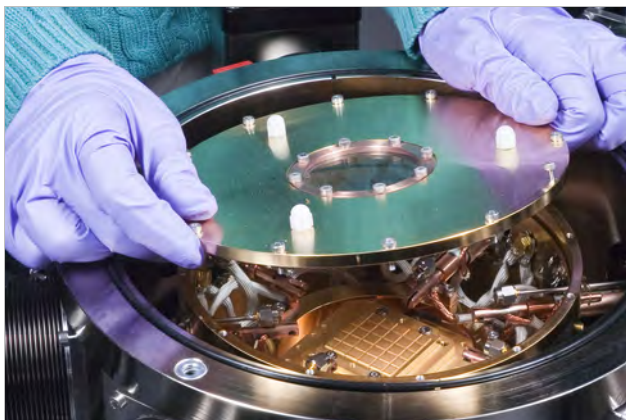

FIGURE 4-7 Attaching the lid to the radiation shield body
1. Using the 2.5 mm hex driver, attach the radiation shield lid to the radiation shield body. Start all M3 screws in a few threads before tightening any screws to prevent cross-threading (FIGURE 4-7).